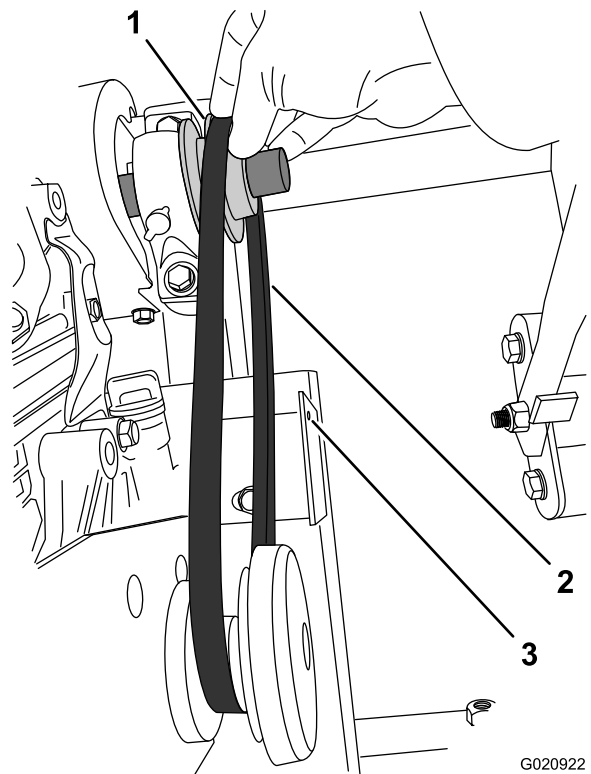

Figure 36
3. Align the (1/4 inch) hole in the belt guard with the hole in the belt guard bracket (Figure 34 and Figure 36).
4. Thread the bolt (1/4 inch) through the belt guard and into the belt-guard bracket (Figure 34 and Figure 36).
2. Lift the belt up and over the shoulder of the eccentric pulley (Figure 36).
2. Pull the belt toward the eccentric pulley (Figure 36).
3. Slip the belt over the shoulder of the eccentric pulley (Figure 36).